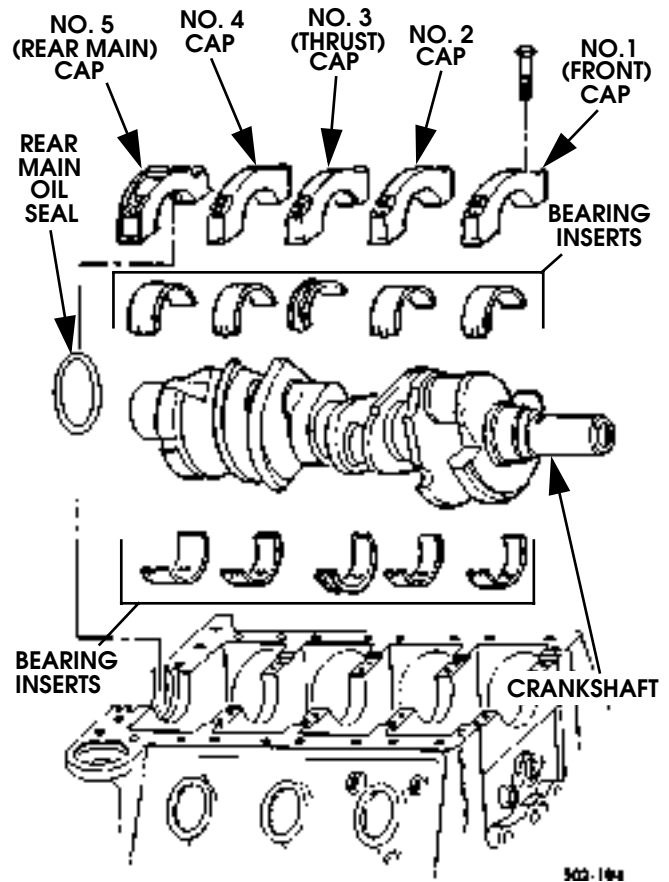

Figure 2-99: Crankshaft and Bearing Removal
4. Tap main bearing caps with rawhide mallet to loosen. Then lift and remove caps. Keep them in order of removal (Figure 2-99).